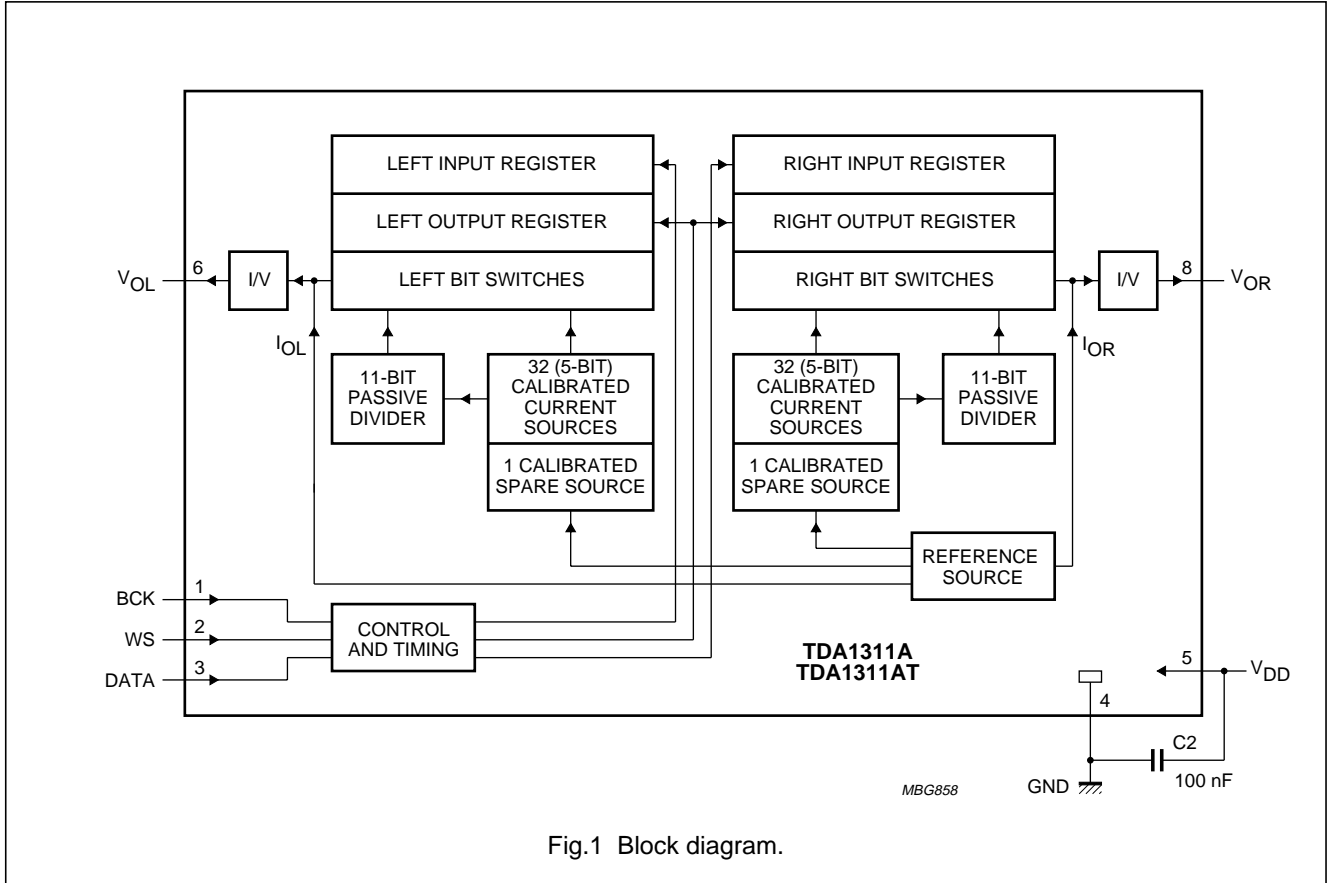

Fig.1 Block diagram.
The 32 current sources and the spare current source of the TDA1311A; AT are continuously calibrated (see Fig.1). The spare current source is included to allow continuous converter operation. The output of one calibrated source is connected to an 11-bit binary current divider consisting of 2048 transistors.
With a HIGH level on the word select input (WS), data is placed in the left input register and with a LOW level on the WS input, data is placed in the right input register (see Fig.1). The data in the input registers are simultaneously latched in the output registers which control the bit switches.
V_{DD} = 5 V; T_{amb} = 25 °C; measured in Fig.1; unless otherwise specified.